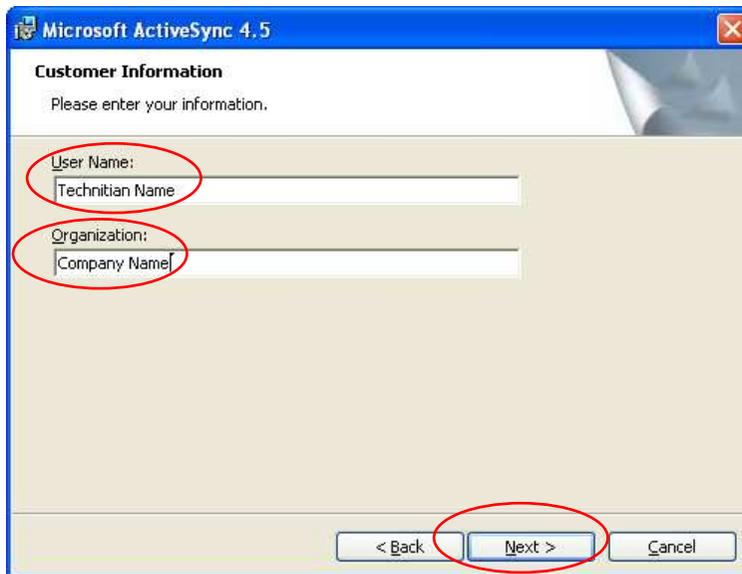

Figure 94:
8. When the next screen appears, enter the relevant details (Figure 94), then enter 'Next'.